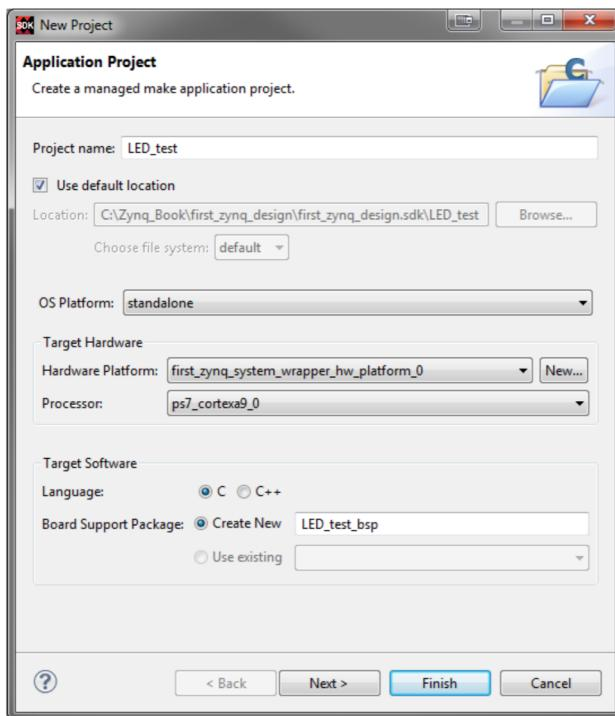

Figure 1.27: New Application Project Dialogue
- The *New Project* dialogue window will open. Enter **LED_test** in the *Project name* field, as shown in Figure 1.27, keeping all other options with the default settings. Click **Next** (Be careful not to select Finish).